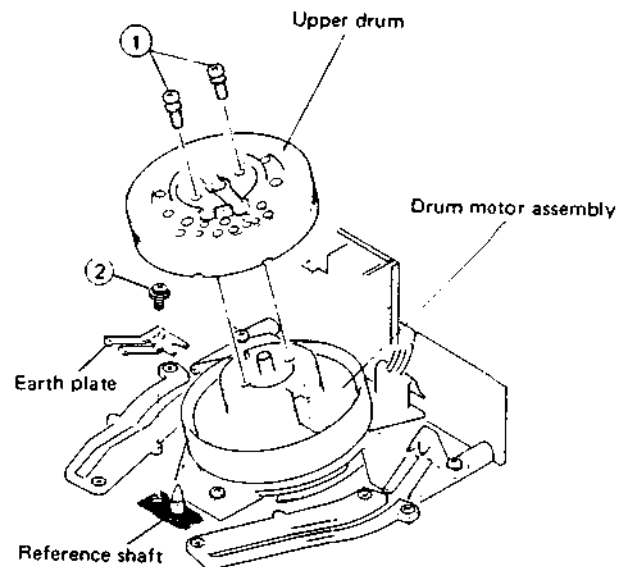

Fig. 2-3-2 Upper drum replacement
- 2) Take out screw (2) and remove the earth plate as shown in Fig. 2-3-2.